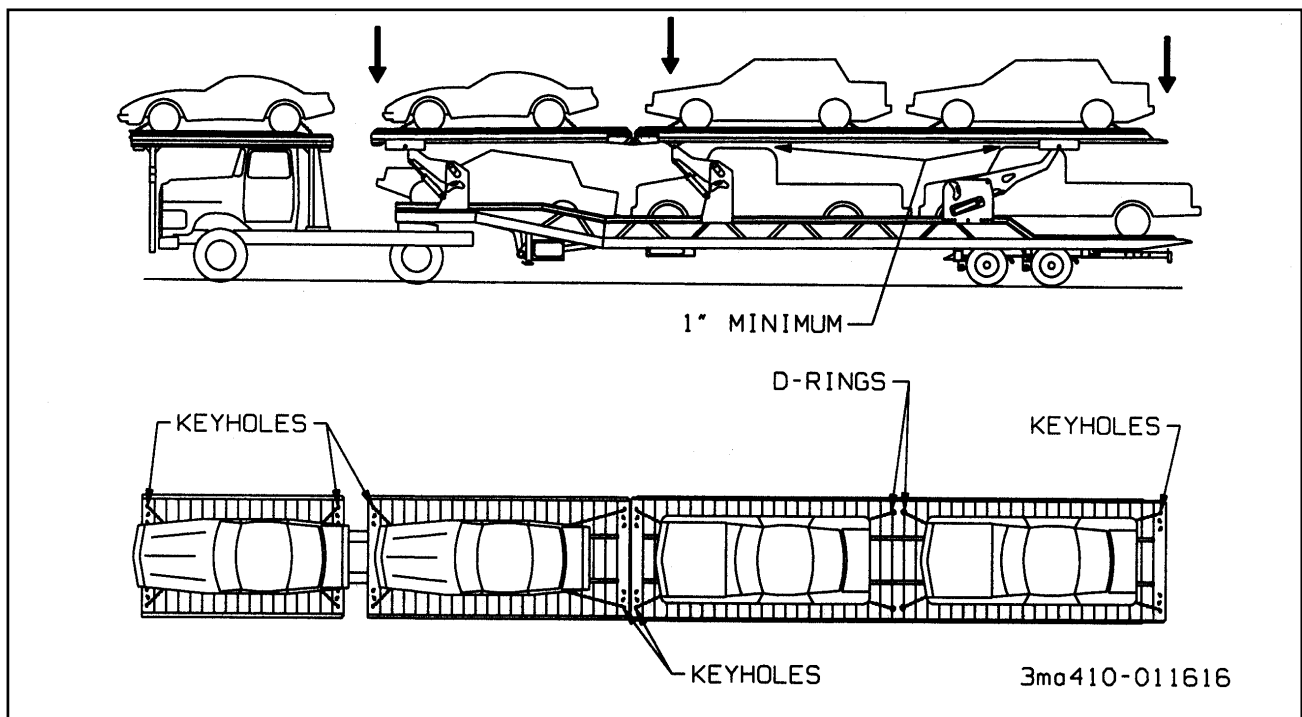

Figure 3-12 Securing the Load
- 3-14.13 Pull the vehicle onto the over-the-cab deck and secure with chains as shown in **Figure 3-12 (See Section 3-17)**.
- 3-17.1 All vehicles must be securely tied front and rear to the deck with 5/16 HI-TEST chain. Key holes are provided in the front and rear of each deck floor to anchor and D-rings are provided in the mid section of each trailer deck for anchoring (See Figure 3-12).